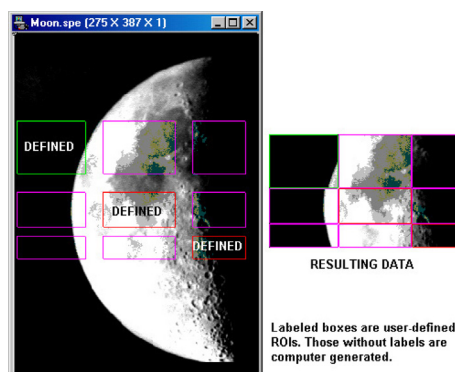

Figure 174. WinX/32 Side-Effect ROIs
**Note:** LightField version 3.0 SPE files are more complex than WinX/32 version 2.x SPE files. The LightField converter allows you to view the data in LightField. File information, however, will be limited and multiple ROIs will be displayed using the WinX/32 side-effect ROIs (see **Figure 174**). Converted data can be exported but it cannot be used in post-processes.